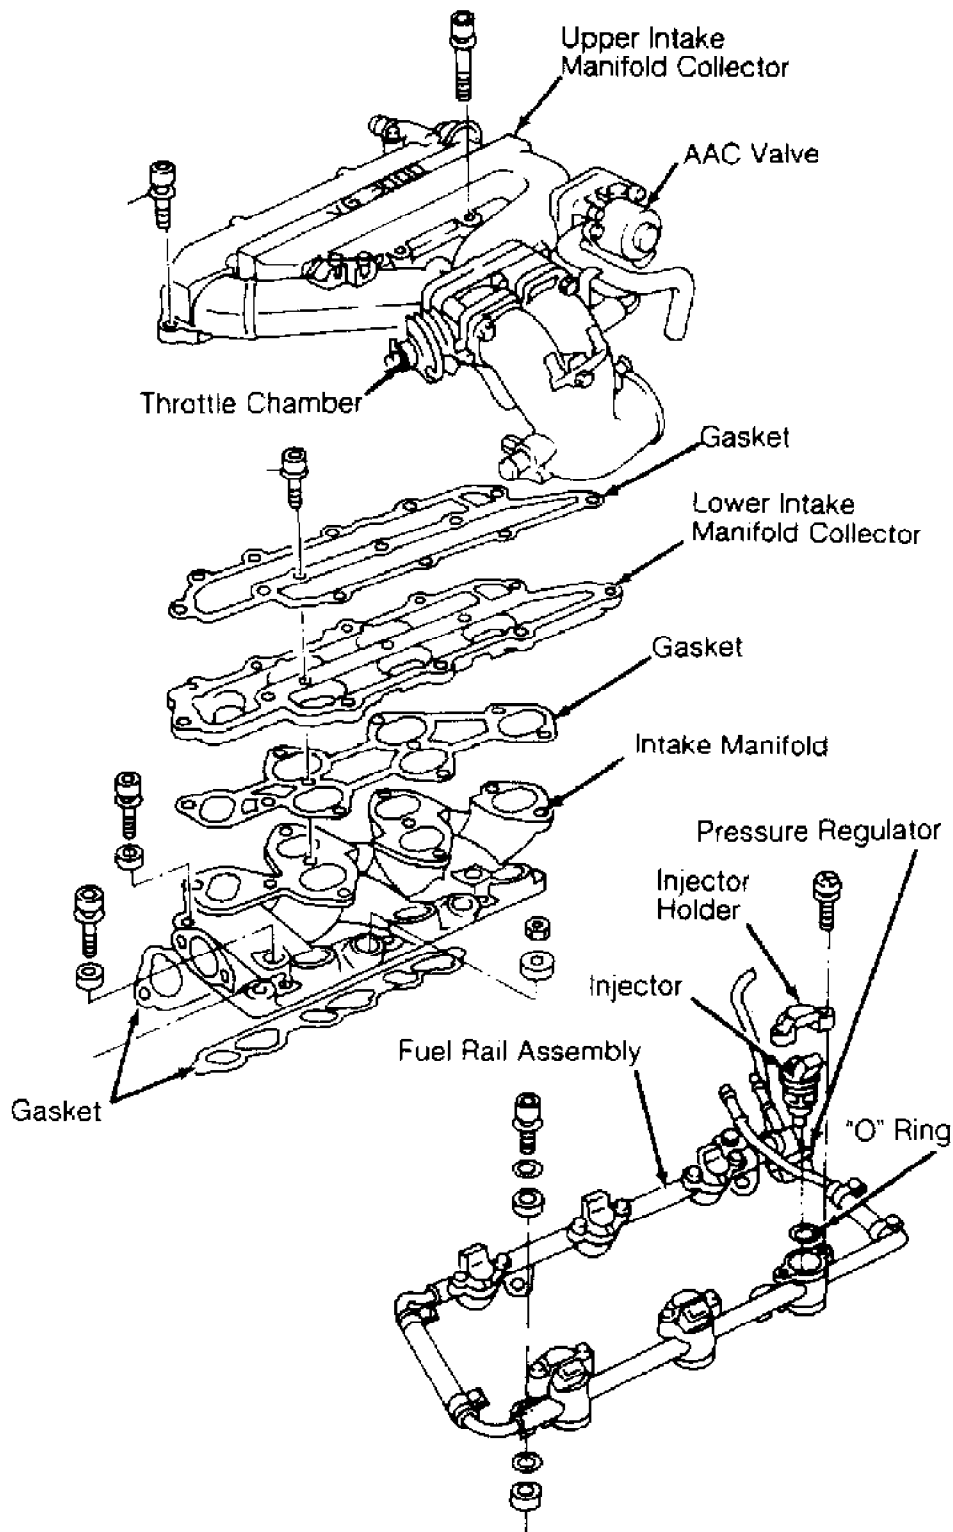

Fig. 1: Removing & Installing Fuel Rail & Injector (Maxima)
2) Disconnect wiring harness connectors from Auxiliary Air Control (AAC) valve, throttle sensor and idle switch. Release cooling system pressure. Drain cooling system. Remove coolant hose to air-cut valve. Remove upper intake manifold collector. See Fig. 1.